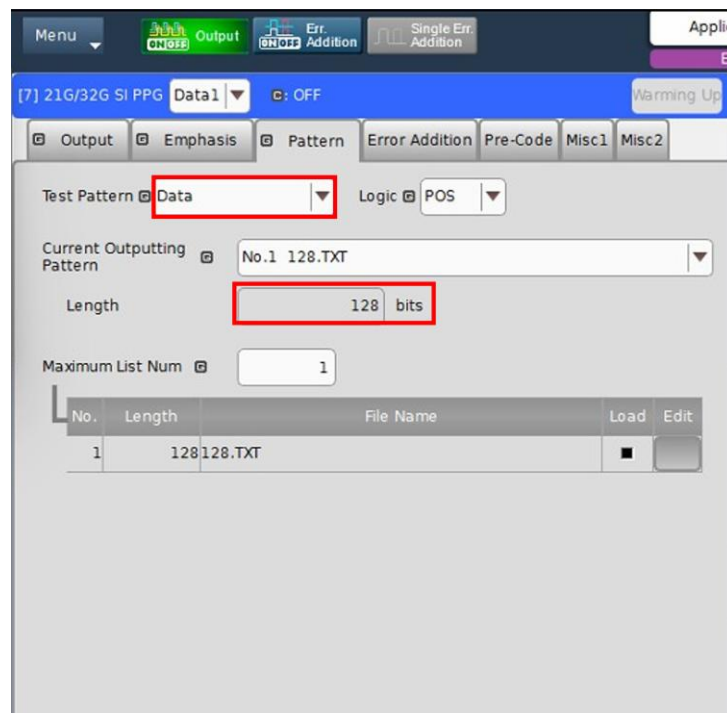

FIGURE 48. PATTERN SETTING
- d) Set Test Pattern on PPG to “Data” and Length to “128” bits (64 1s and 64 0s) to output SQ64 pattern. See Figure 48.